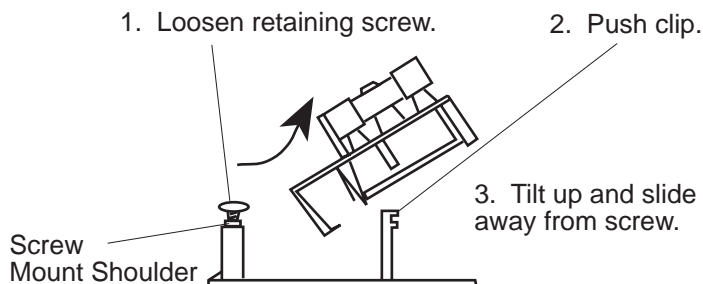

Figure 2-4 Removing the Fuse Block
1. Loosen the Phillips screw two turns and remove the fuse block by tilting it up and sliding it away from the screw (Figure 2-4).